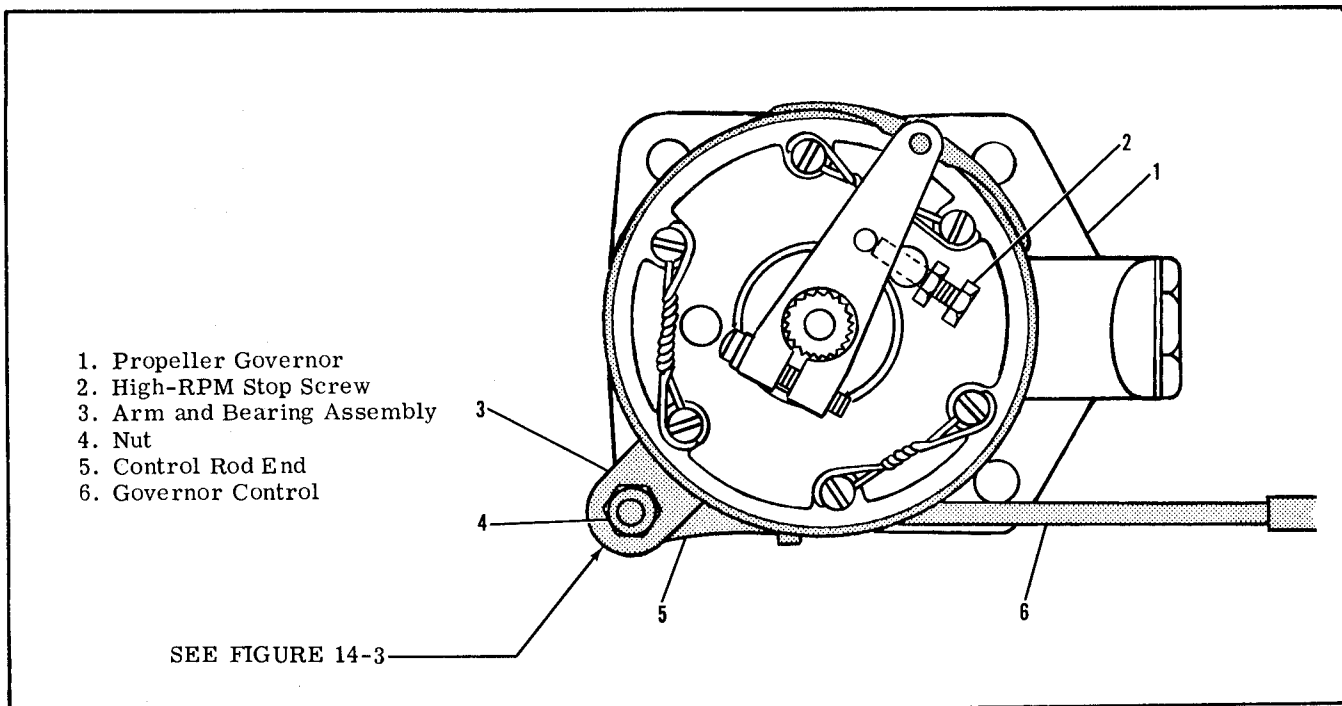

Figure 14-4. Governor and Control Adjustments
- (Figure 14-4.) Remove engine cowling. Disconnect cabin heater inlet air duct as required for access to governor.